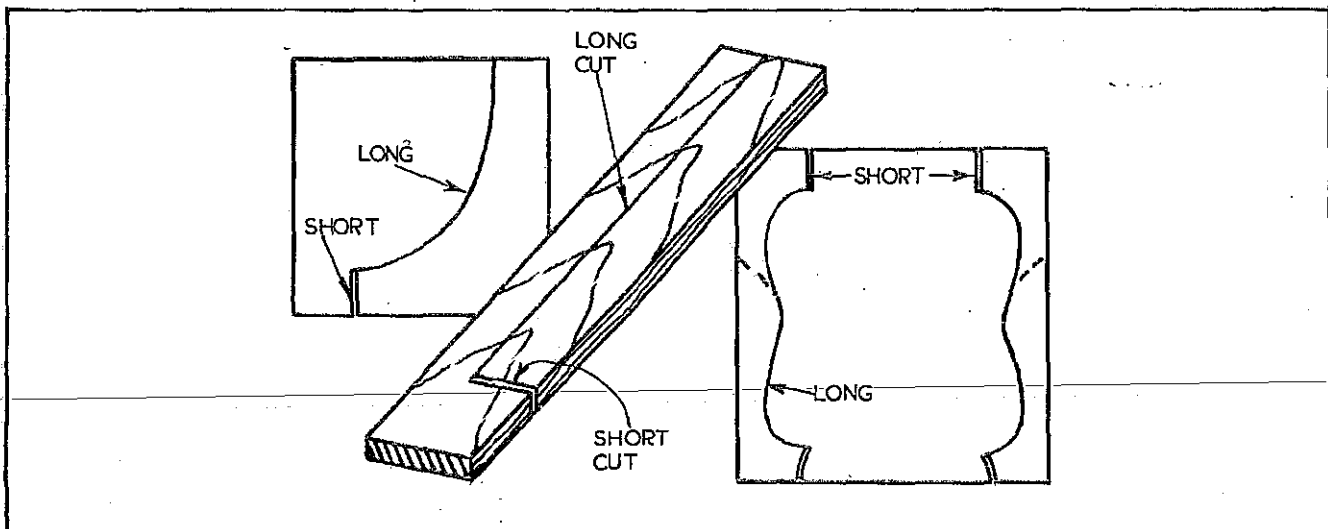

FIG 35
2. Make Short Cuts First SEE FIG.35.